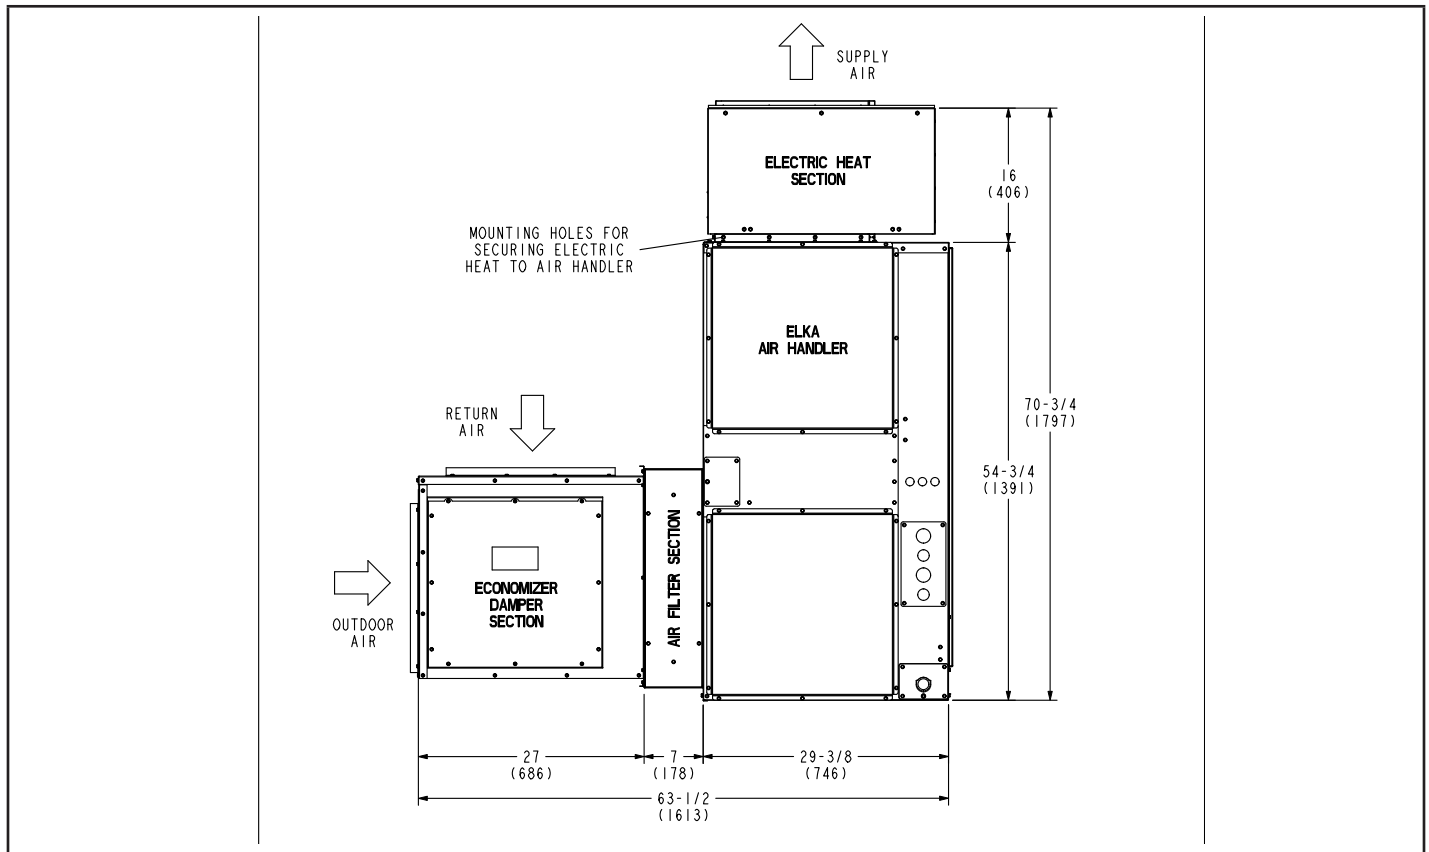

FIGURE 1. ELKA Upflow Application – Dimensions – Inches (mm)
ELEH sections can be installed on a ELKA unit in either Upflow or Horizontal Applications as illustrated in figures 1 and 2.
NOTE - The electric heat section flanges will fit inside the air handler supply duct flanges. When properly oriented, the electric heat section and air handler control boxes are accessible from same side of the air handler. The snap bushing in the electric heat section control box will align with snap bushing just installed next to blower opening. See figures 1 and 2.
- 6 - Align the electric heat section flanges just inside the air handler supply duct flanges. Mating holes in both flanges are provided. Secure together using provided screws. Refer to figures 1 and 2.